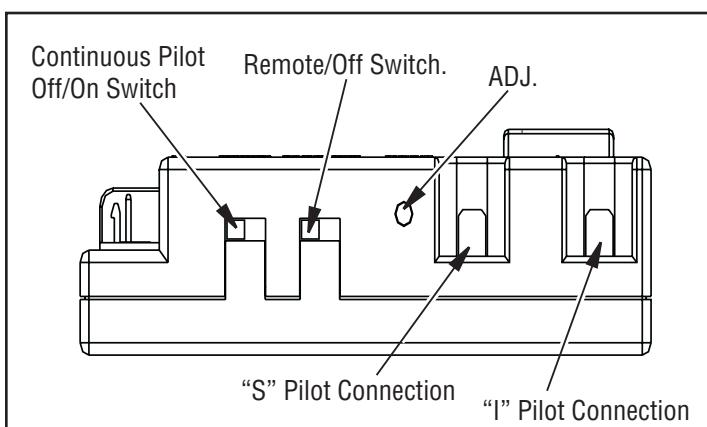

Figure 35 - Gas Module Right Side
1. There is a switch located on the right side of the module that reads CONTINUOUS PILOT ON/OFF. This switch selects the pilot's mode of operation (*Figure 35*).